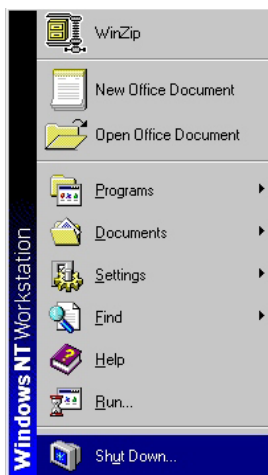

Fig.1
Step 1 : Click on the Start button (Win95, Win98 or Win NT) and choose " Shut Down..." as shown in Fig.1